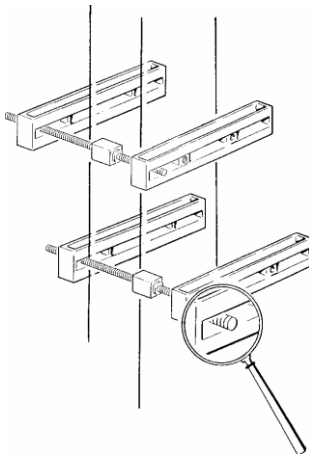

fig.17
- Check that obvious defects of the support/fixing structures are absent (fig.17);